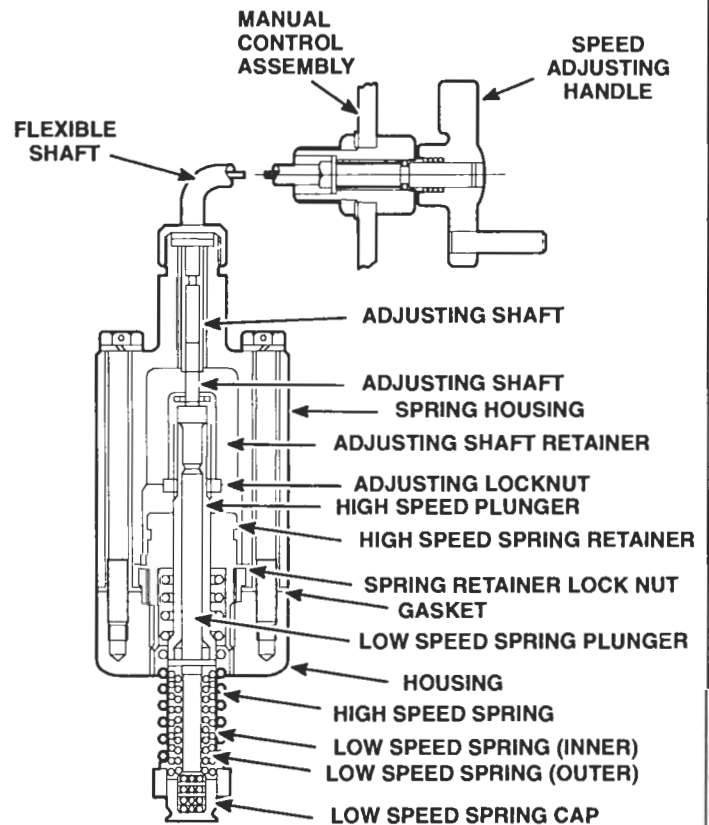

Figure 1. Cable Operated Governor Spring Housing and Components
3. For cable operated governor make a preliminary idle speed (normal highway idle speed) adjustment as follows (Figure 1.):